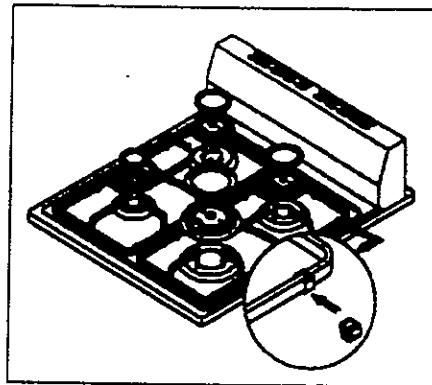

Figure 6
- The cookware supports must be in their places on the cook top. These plastic rings are already in place and are used to prevent rocking as shown in Figure 6. Use stable cookware with a flat bottom and always place the utensils on the cookware supports before lighting the burner.